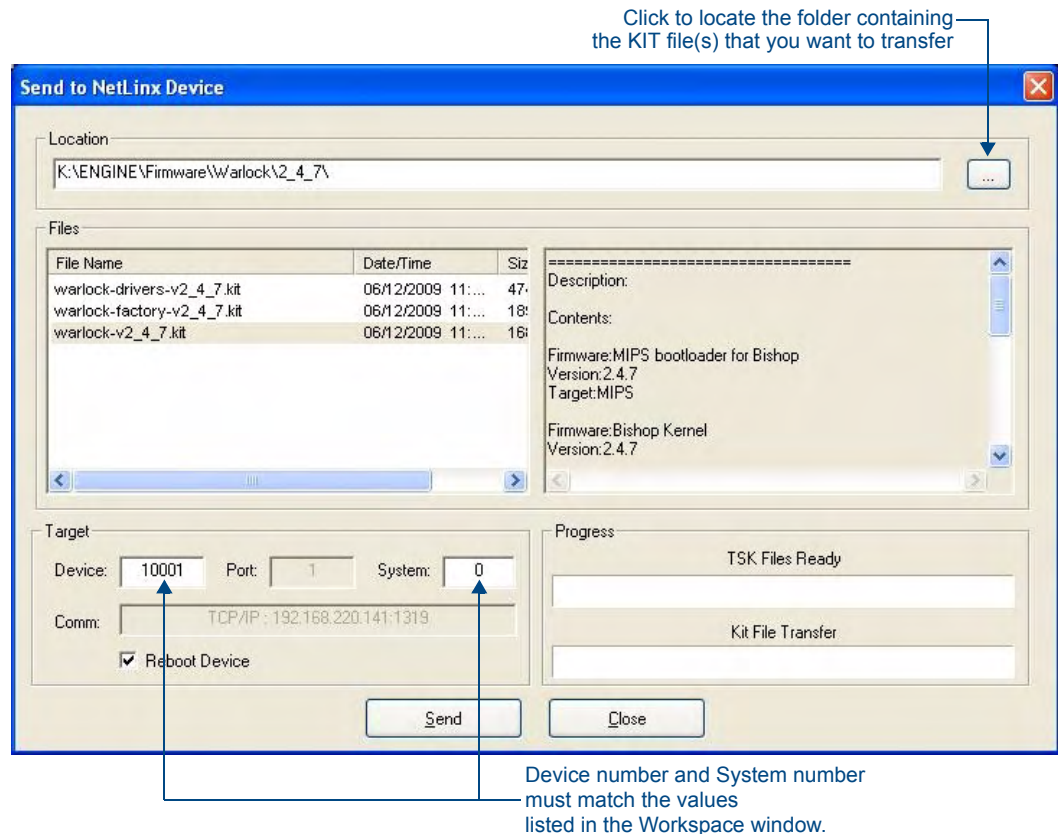

FIG. 92 Send to NetLinX Device dialog box (showing TPI-PRO/DVI firmware update via IP)
3. In NetLinx Studio select **Tools > Firmware Transfers > Send to NetLinx Device** to open the *Send to NetLinx Device* dialog (FIG. 92).